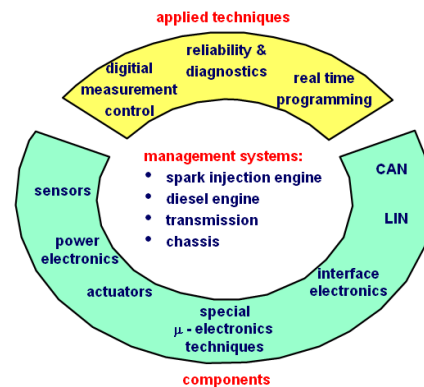

Figure A.1: Module Vehicle Electronics
Content	<p>The module handles 3 levels, (1) system level, (2) component level and (3) applied techniques, as schematically shown in figure A.1</p> <p>At system level, distinction is made between spark injection engine management systems, diesel management systems, transmission management systems and chassis management systems.</p> <p>At component level, the module discusses sensors, actuators, interface electronics, power</p>